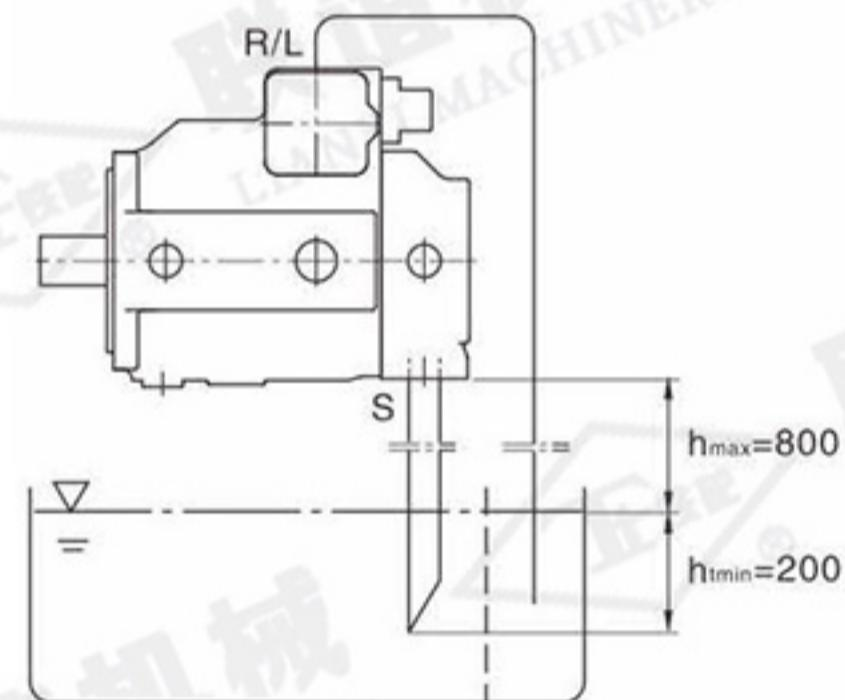

图4
b) 当油箱的最低液面比泵的上端低时, 泄油口以及可能包括《S》口必须用管道连接(见图4)。此情况如同本节《安装在油箱外面》中a)项所述。
When the minimum level in the tank is lower than the upper end of the pump, the drain port and possible port S must be connected with pipes. (See Figure 4) .This situation is same as what is specified in a) Mounting outside of the Tank in this section.
a) 如安装在油箱之上, 请见图4。
For mounting on the tank, see Figure 4.